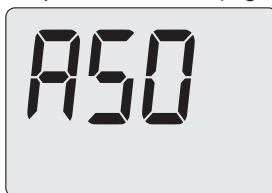

Fig. 8.51
- Press button 10 and hold until the LCD display shows the code **A50**, indicating entry into “parameter A50” (Fig. 8.51).
- Press 10 (Fig. 8.31) to confirm the value entered and return to the list of parameters (Fig. 8.51).